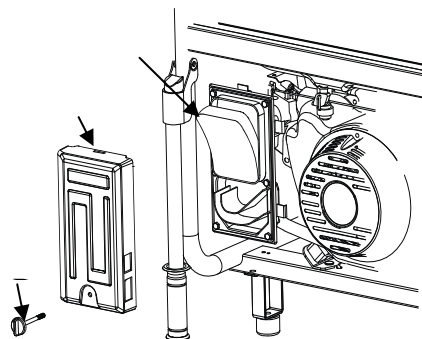

Figure 17- Air cleaner maintenance.
1. Unscrew the four bolts at the top and bottom of the air cleaner cover (see figure 17).